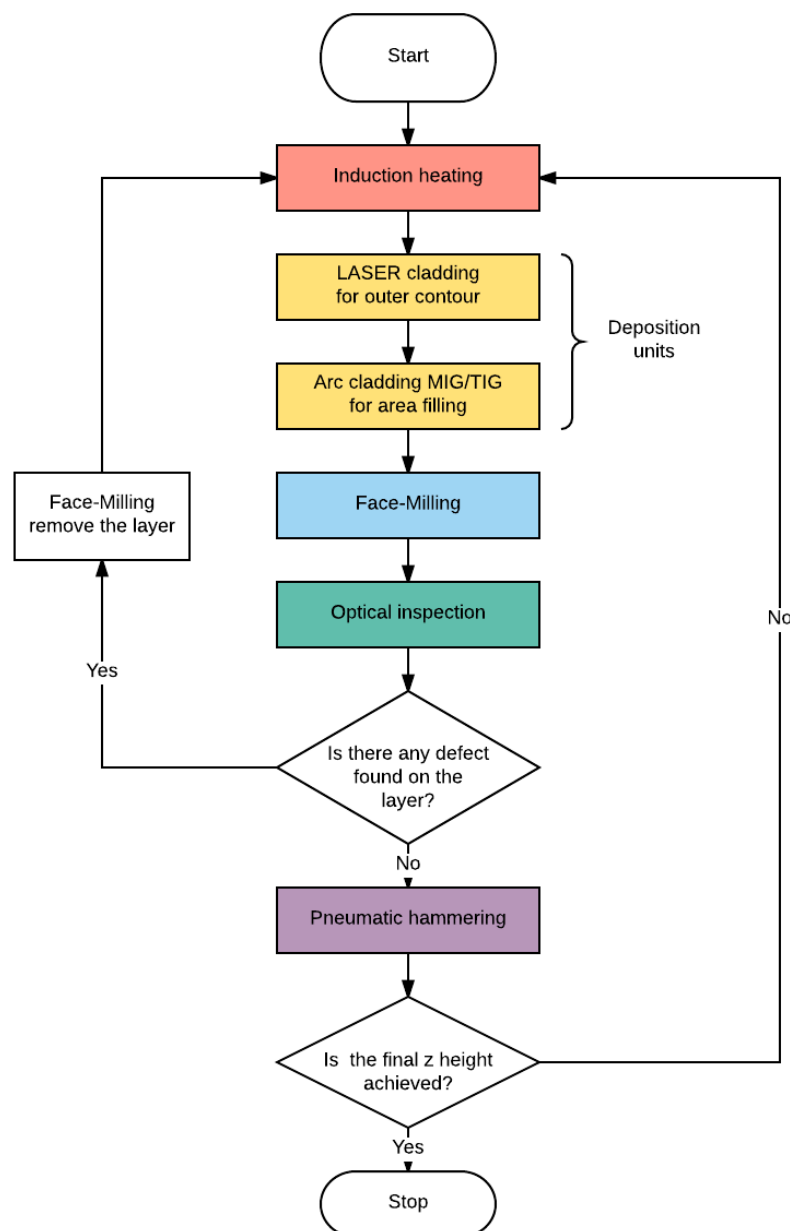

Figure 2: Work flow chart of Multi-Station Multi-axis HLM System
mounted on the rotary table and the near-net shape will be created in a layer-by-layer manner. A typical sequence of operations to realize any layer is as follows (See, Figure 2):
- This should be designed to take up a workpiece of 600 kg. The working area of the table is 500mm x 500mm. All the other dimensions in Figure 2 are only suggestive; you may choose them suitably to meet these size and loading conditions.